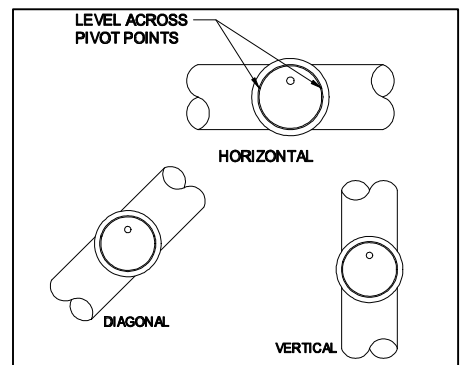

Figure 4
4. Mount the VRV assembly into the tee and fasten with a screw and nut in collar tabs. (See Figure 4) To ensure proper operation, check the gate for being level across the pivot point and plumb.
3. Mount the VRV assembly onto the tee and fasten with a screw and nut in collar tabs. (See Figure 4) To ensure proper operation, check the gate for being level across the pivot points and plumb.